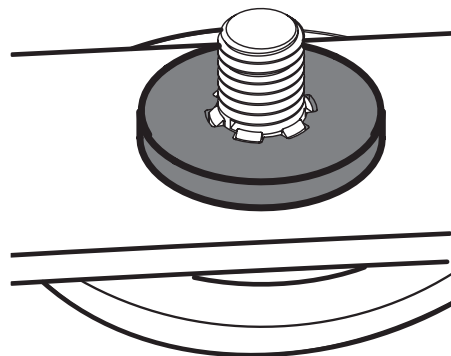

Figure 4-26
2. Carefully place the flat washer on the spindle shaft. Be sure that the splines at the base of the spindle shaft threads line up with the washer splines. See Figure 4-26.